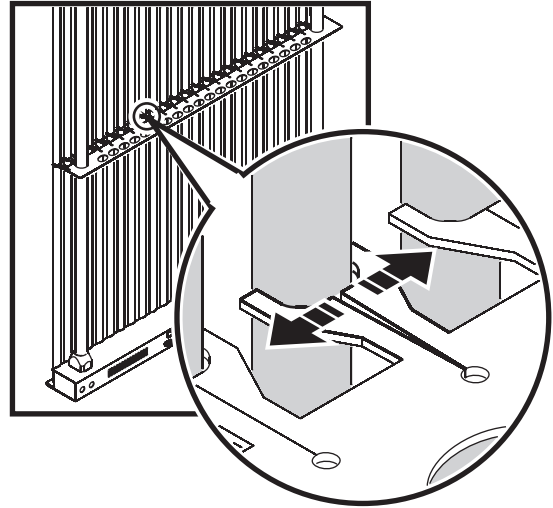

Figure 19: Releasing an LED tube
2. See Figure 19. Insert a broad flat-blade screwdriver into the slot in each of the clear plastic brackets immediately behind the tube you want to remove. Twist the screwdriver very slightly to release the tube in the slot so that it can be pulled forward out of the bracket.